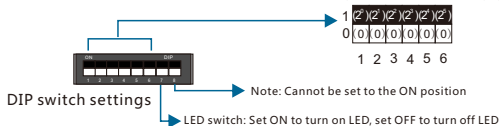

Figure 5. Address DIP Switch Table 1
5. Dial (see Figure 5) :
- The 7-bit address of the dial (see Figure 5) : When the 7-bit address is set ON, the LED indicator light is turned on (the factory default is turned on); when the address is set OFF, the LED indicator light is turned off.
- 8-bit address of dial (see Figure 5) : cannot be set to the ON position, otherwise the device cannot be used.